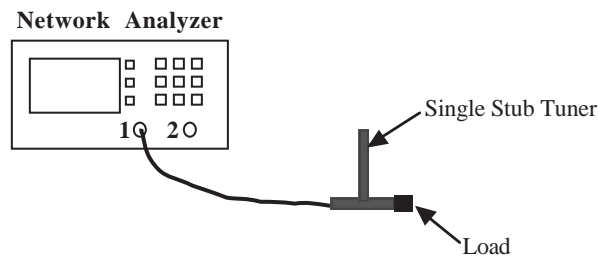

Figure 4-12: Block diagram of setup for Section 4-4.2
Setup the experiment as shown in Fig. 4-12:
- Connect the sliding termination line (the single stub tuner) to the end of the N-type co-axial cable as shown in Fig. 4-12.